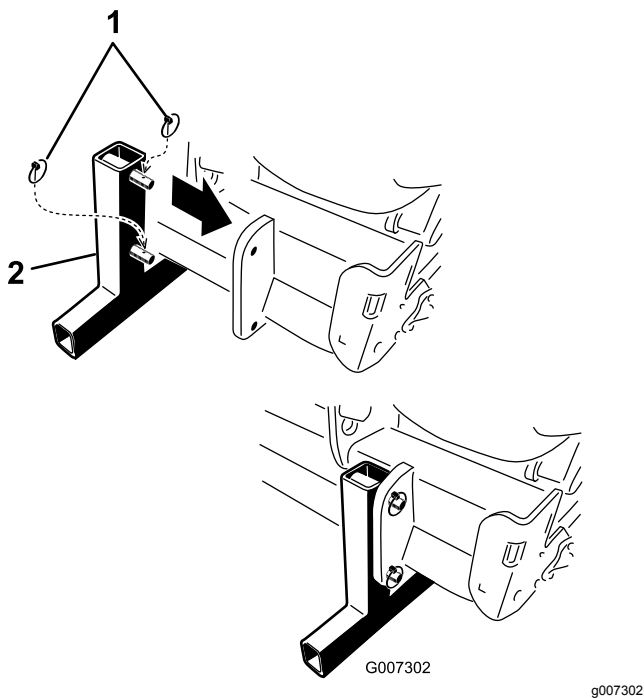

Figure 44
5. Install the storage stands and secure them to the aerator with the lynch pins (Figure 44).